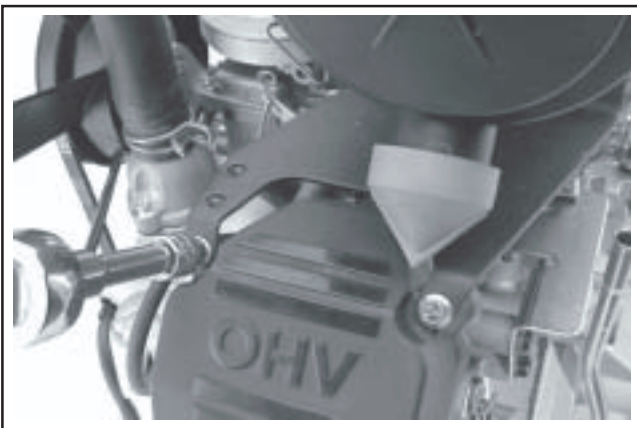

Figure 9-16. Removing Upper Valve Cover Mounting Bracket Screws.
2. Remove the two upper valve cover mounting screws on each side, which also secure the main mounting bracket for the air cleaner. See Figure 9-16.